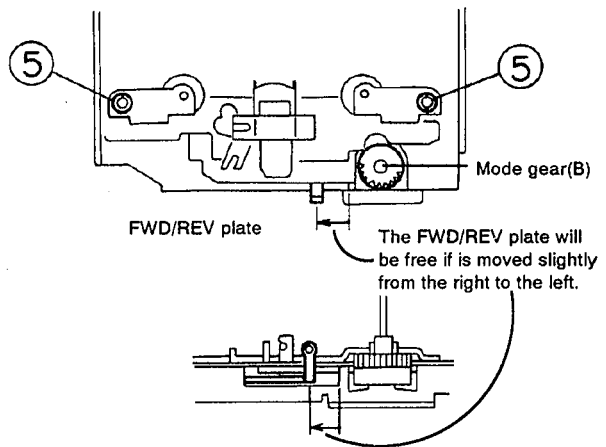

Fig. 4-15
■ **Pinch roller ass'y** (See Figs. 4-15 and 4-16)
- 1) Remove two C washers ⑤ securing the pinch roller ass'y (do this for both the FF and REV modes).